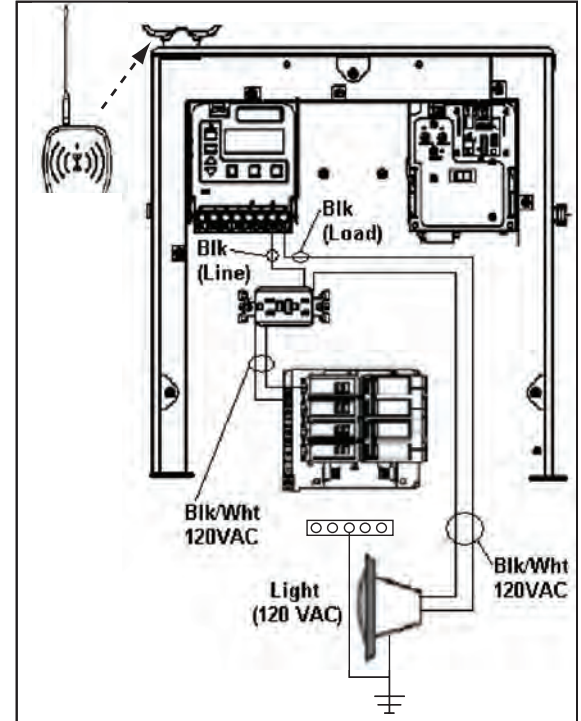

Figure 3-8
1. Install a GFCI receptacle and connect the neutral and hot wire, from the circuit breaker, to the LINE side of the GFCI. (See Figure 3-8).
- b. Then out the LINE side of the clock to the LOAD side of the GFCI. (See Figure 3-8.)